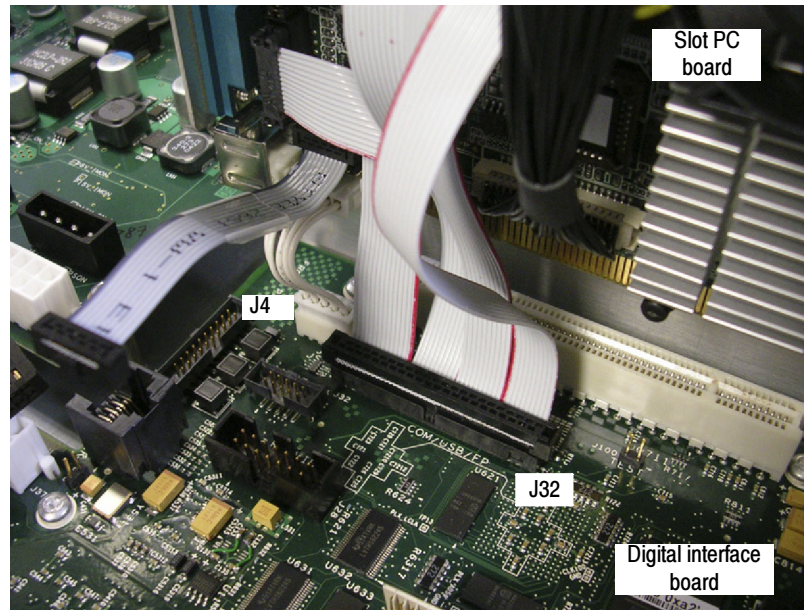

Figure 6: 5-pin and 44-pin connector locations
8. Disconnect these cables from the Digital Interface board (see Figure 6):